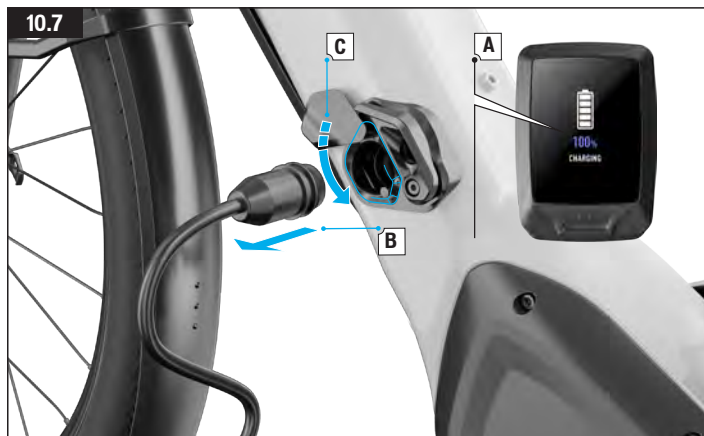

Fig. 10.7
- Re-hook the battery onto the hook (Fig. 10.7) and rotate the battery back into the frame.
- Press the battery slowly into the frame until you hear the first click (A), the battery is then held in the frame, rotate the latch lever counter-clockwise (B) to secure it into the frame.
- Lock the battery latch and remove the key from the frame (C). Do not ride the bicycle with the key inserted into the lock mechanism.
- Power on the MasterMind TCD to check the connection (D).